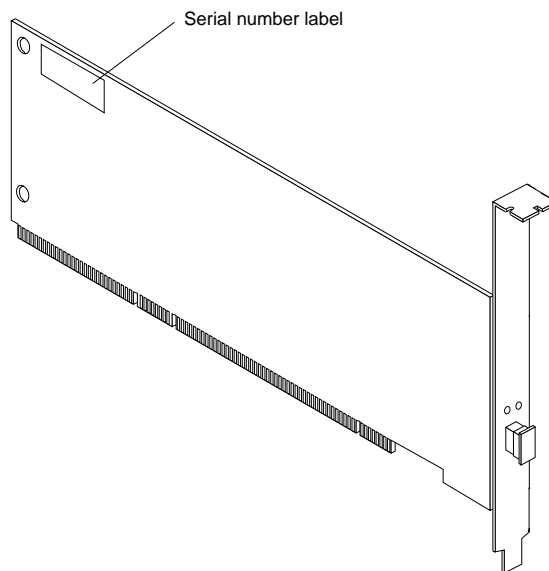

Figure 1. FASTT FC-2 Adapter serial number label
- Write down the serial number of the FASTT FC-2 Adapter. Each adapter has a unique serial number. If the nonvolatile random access memory (NVRAM) is damaged, the system will prompt you for the FASTT FC-2 Adapter serial number. Figure 1 shows the serial number label location.